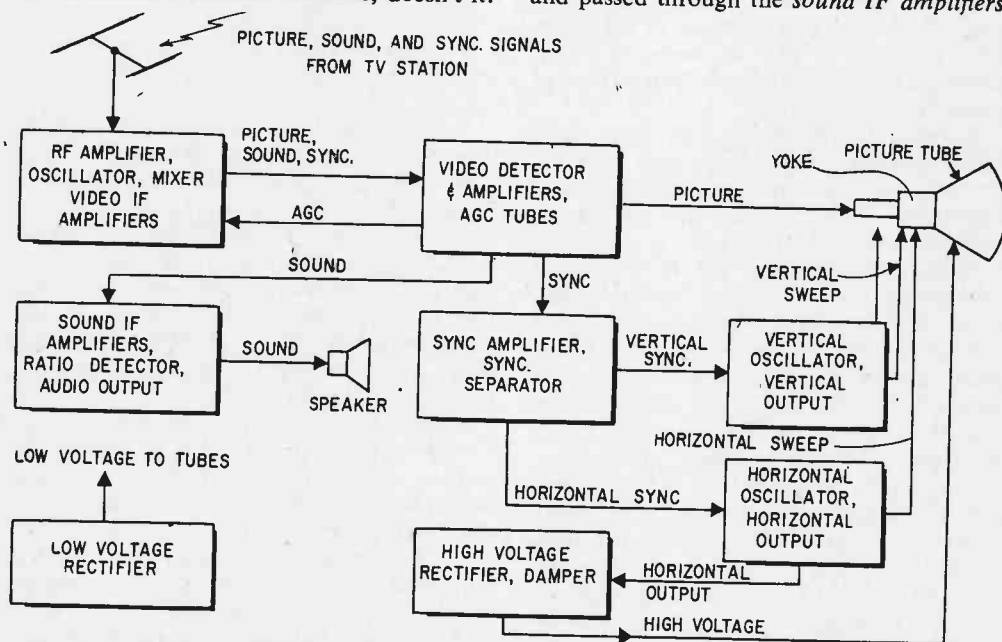

Fig. 2. Block diagram of TV circuitry is just about the same for all black & white TV sets.
**Around the Block.** Now, let's take a look into your TV set. Fig. 2 is a simplified block diagram showing the electronic-tube circuits in a typical black-and-white television set. Let's trace the routing of signals through the diagram. As we do this, refer to the tube location diagram in your own set and see if you can find tubes whose functions are the